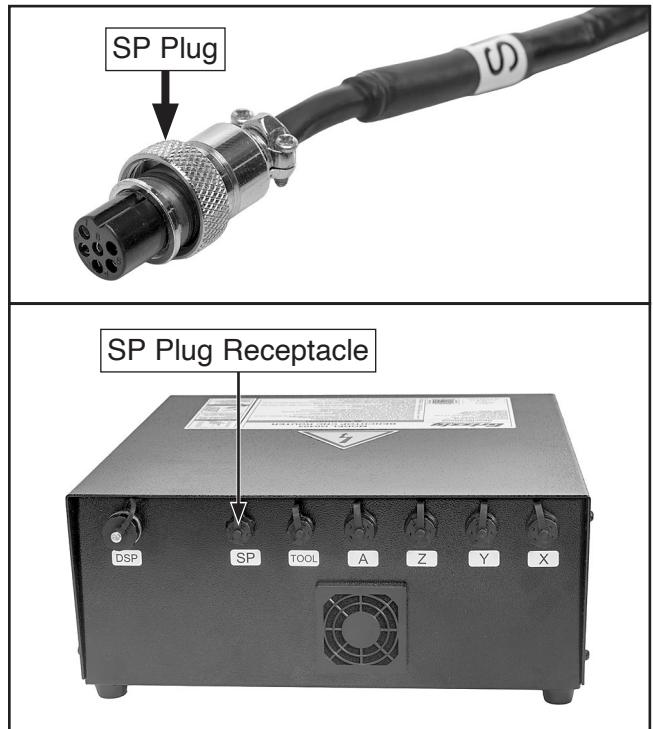

Figure 7. Location of kit electrical connections.
- Place VFD near Model G0403 control box and connect SP plug from VFD to matching receptacle on rear of control box, as shown in **Figure 7**.